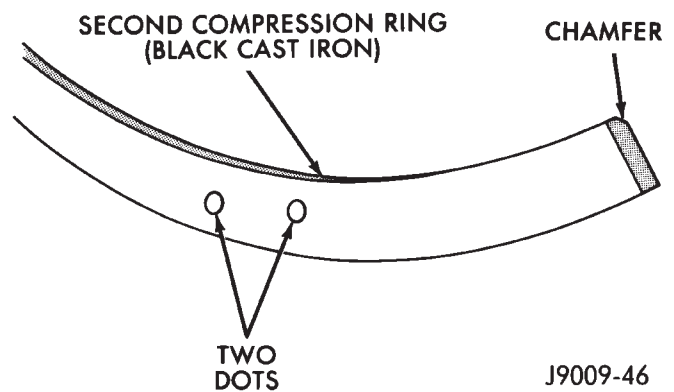

Fig. 23 Second Compression Ring Identification
(8) The second compression ring (black cast iron) has a chamfer on the **BOTTOM** of the inside edge (Fig. 23). This ring may also have 2 dots located on the top surface.